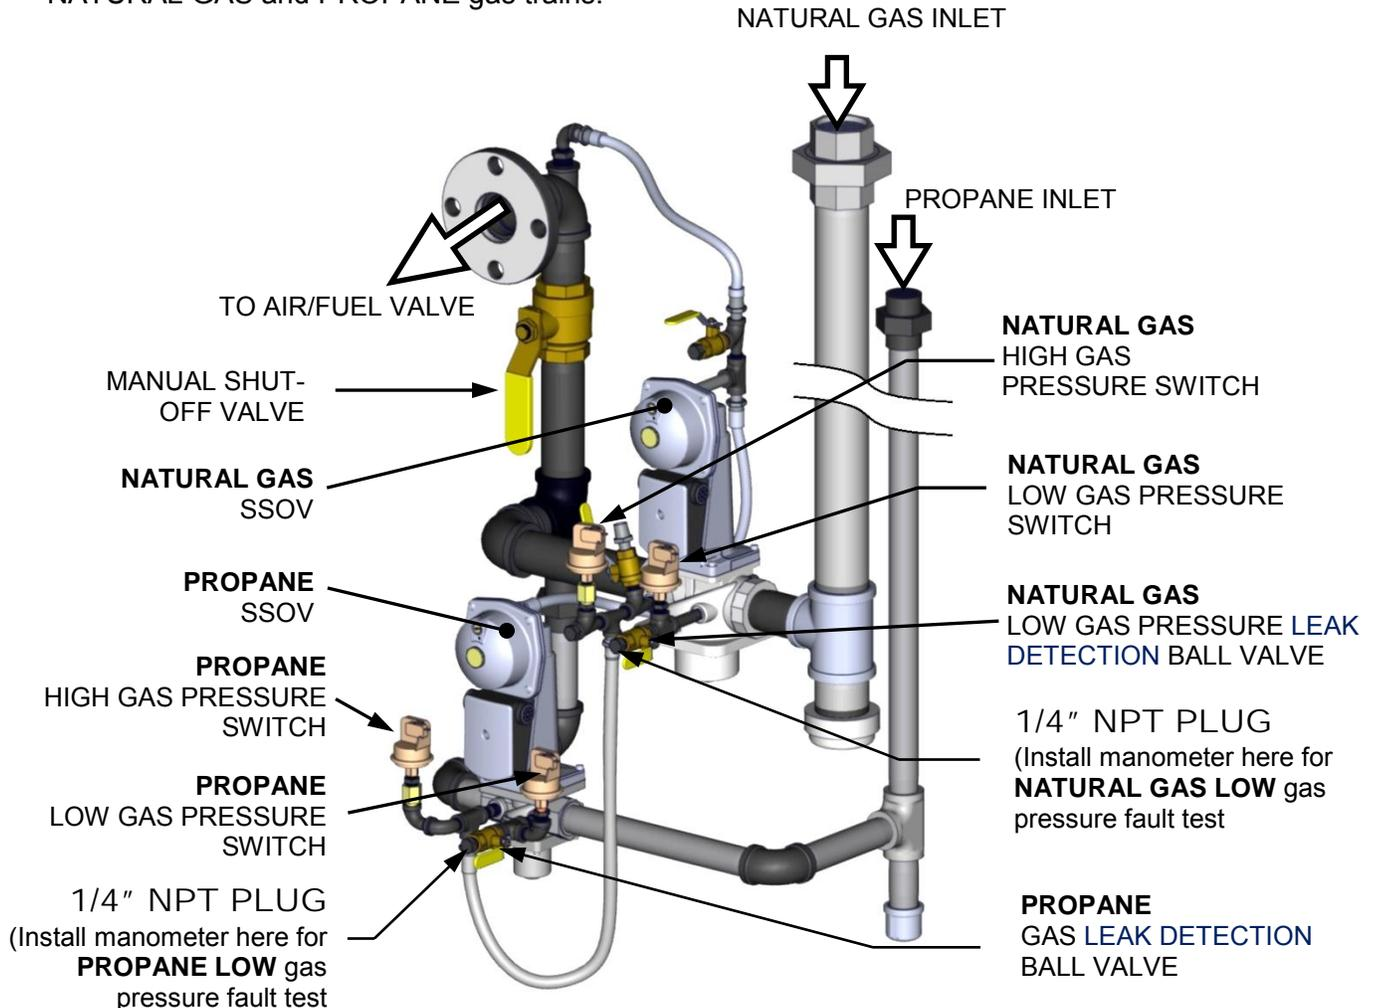

Figure 6-1a: Low Gas Pressure Test
To simulate a low gas pressure fault, refer to Figure 6-1a and perform the following steps:
1. Ensure that the appropriate low gas pressure leak detection ball valve (Natural Gas or Propane) is closed (see Figure 6-1a). Note that there are two Natural Gas leak detection ball valves (for high and low pressure) but only one on the Propane gas train.
2. Remove the 1/4" plug from the appropriate (Natural Gas or Propane) ball valve at the associated low gas pressure switch as shown in Figure 6-1a.